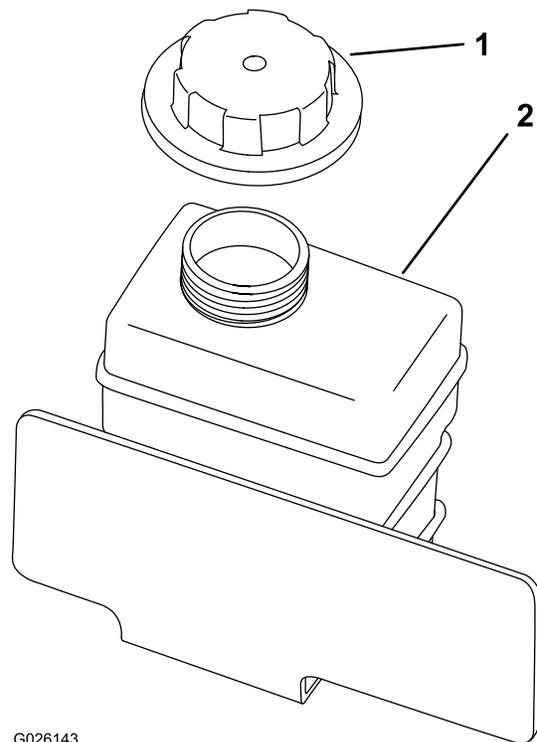

Figure 55
4. Remove the reserve-tank cap (Figure 55).
8. Slowly fill the coolant-reserve tank until level reaches the bottom of the filler neck (Figure 55).
9. Install the reserve-tank cap (Figure 55).